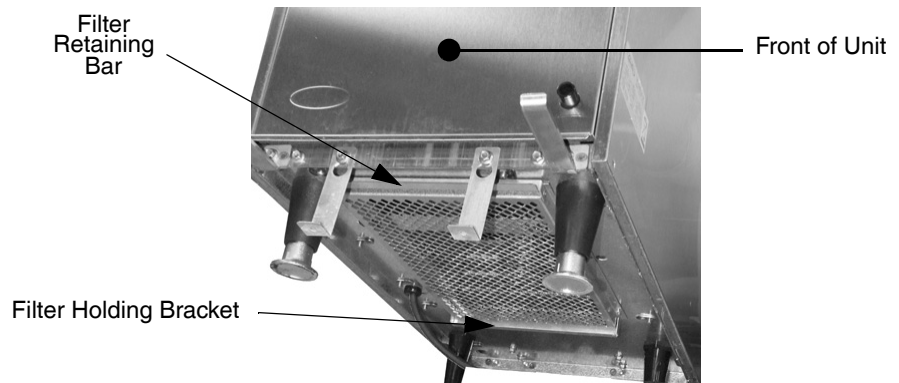

Figure 30. Air Filter Location
2.	Reach under the unit and flip up the filter retaining bar, shown in Figure 30.